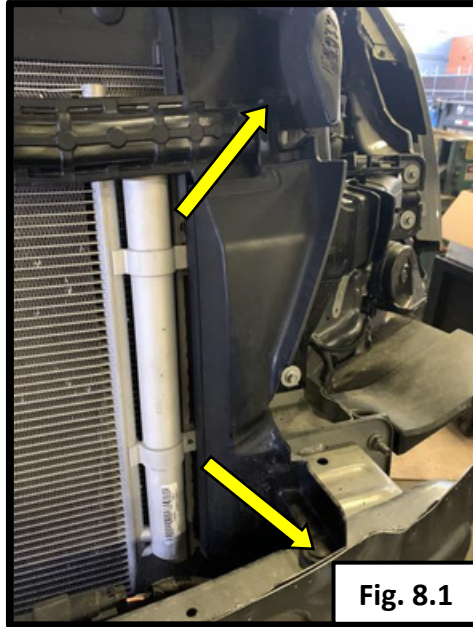

Fig. 8.1
- Use a pry tool to unclip the plastic air deflector located on each side of the radiator. See Fig.8.1.